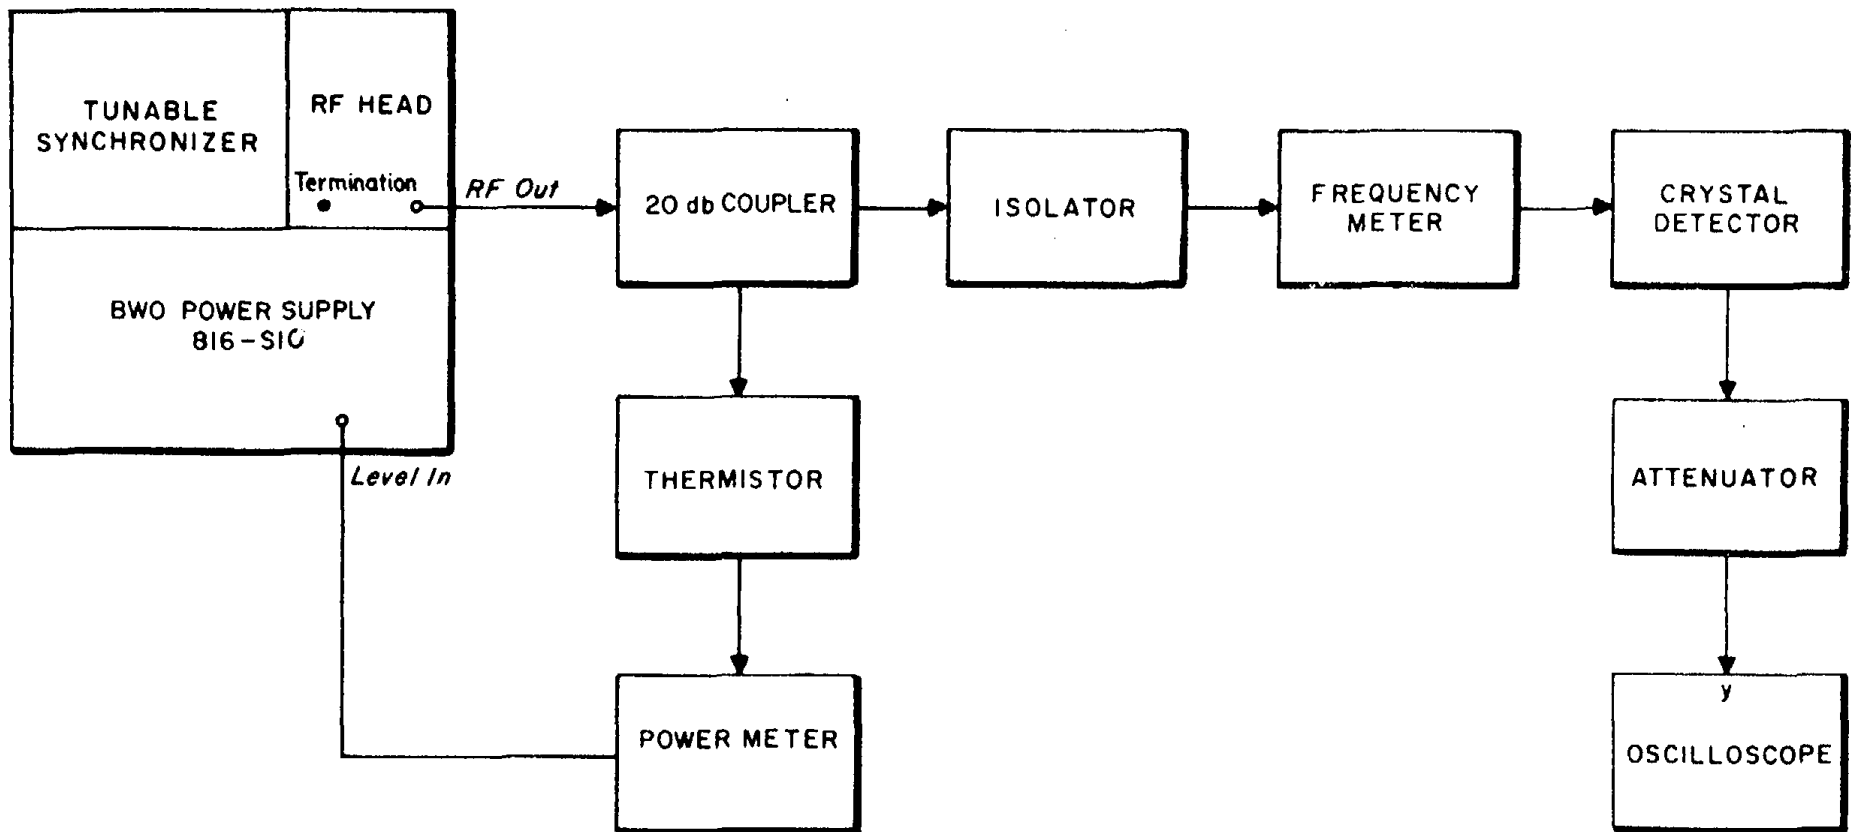

Figure 14. Test Setup for RF Head Alignment
- a. Connect the equipment as indicated in figure 14.